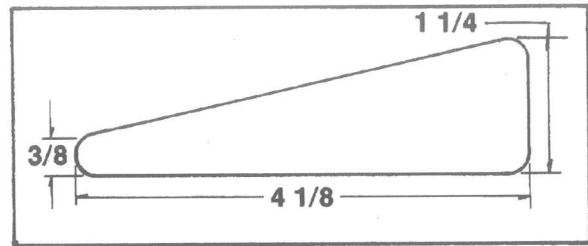

Fig. 13 – Typical Wedge
7. Fabricate a wooden wedge as shown in the diagram (Fig. 13).